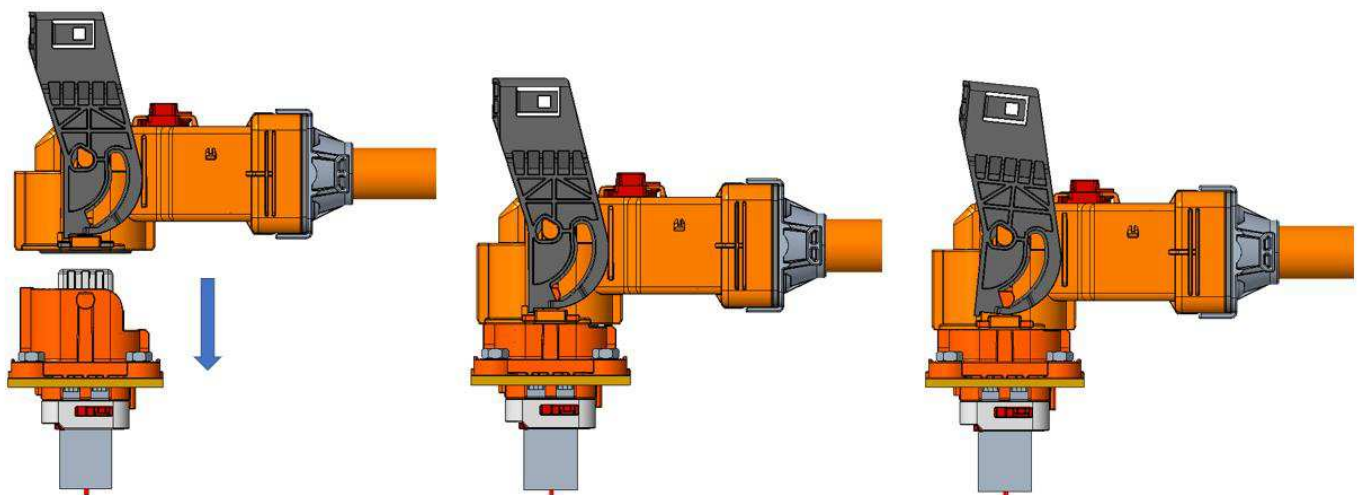

Figure 18: Plug and Header Pre-Lock
3. Holding the plug connector body, push the connector halves together until the header posts completely engage with the lever as shown in Figure 18. Lever will start to rotate slightly at this point.